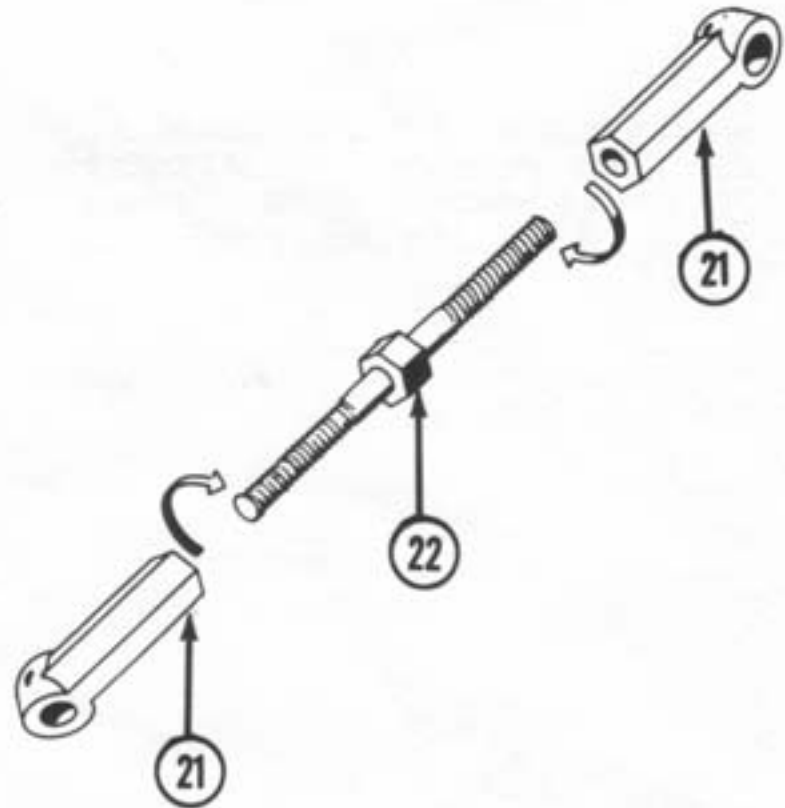

Figure 12
6. Thread an adjustable rod end (21) onto each end of a 1.875" turnbuckle (22). Tighten both ends evenly until the overall length matches the illustration below. Make two. These will now be referred to as tie rods. Fig. 12